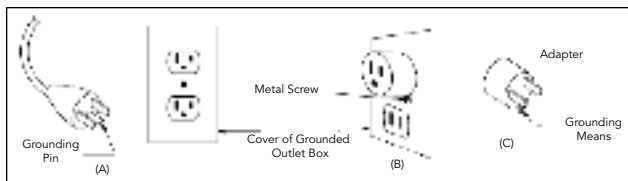

Figure 65.1
- This heater is for use with 120 volt electrical outlets. The cord has a plug as shown at A in Figure 65.1, below. An adapter as shown at C is available for connecting three-blade grounding-type plugs to two-slot receptacles. The green grounding lug extending from the adapter must be connected to a permanent ground such as a properly grounded outlet box. The adapter should not be used if a three-slot grounded receptacle is available.